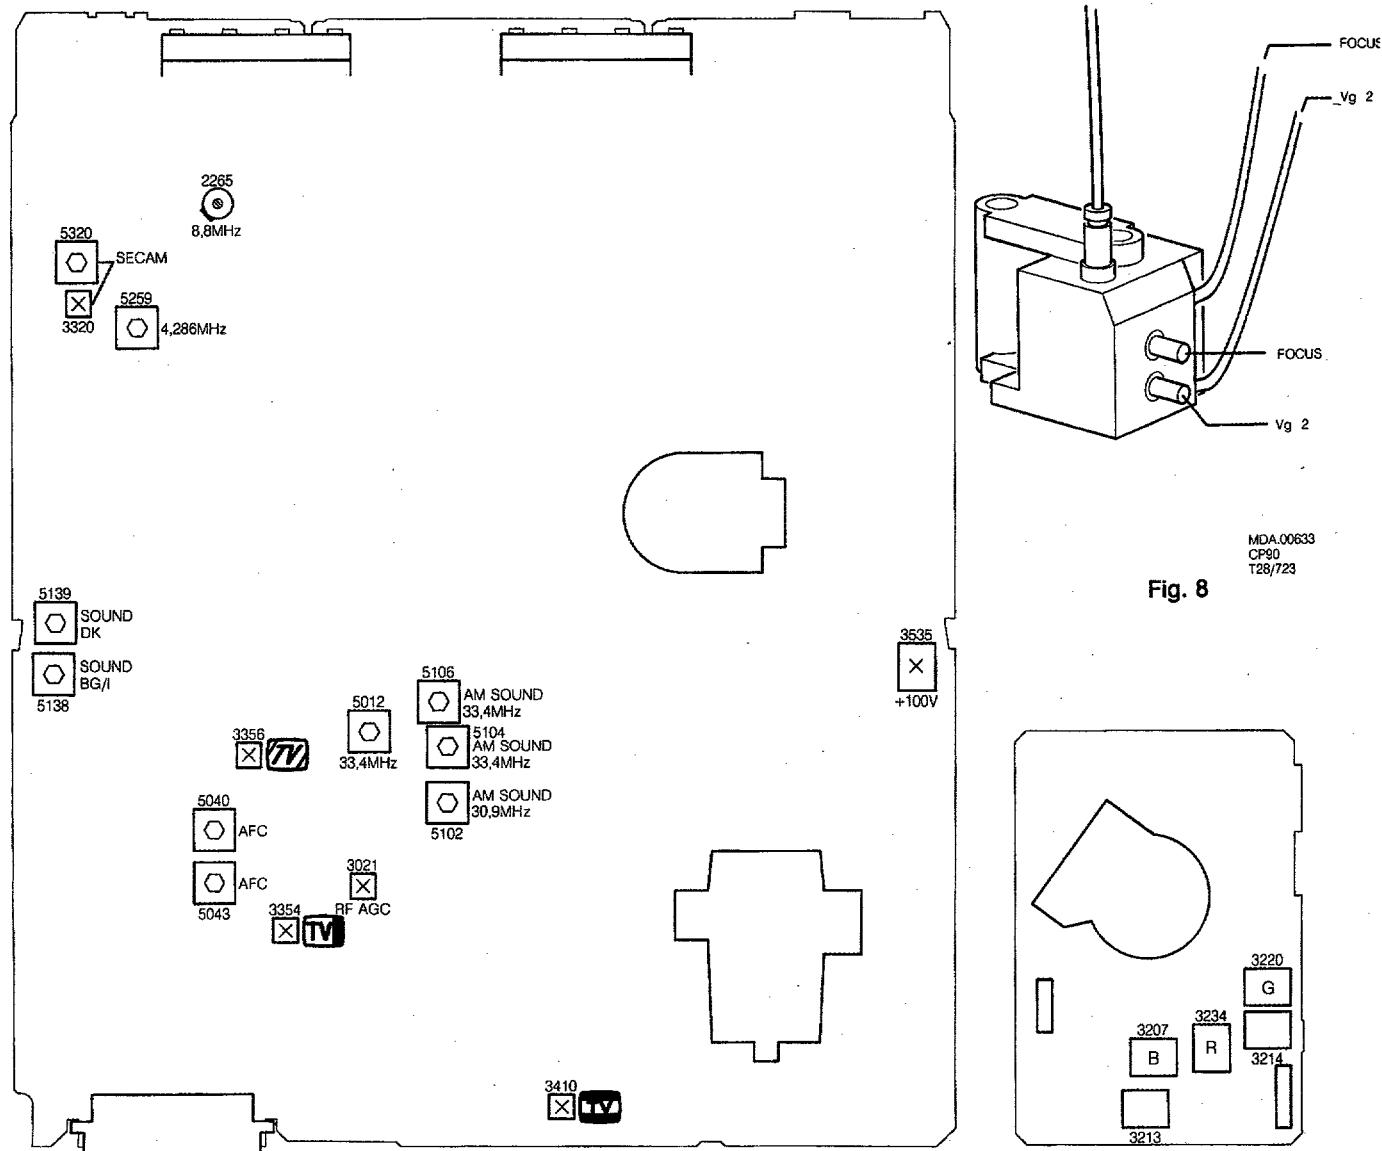

Fig. 7
1. Adjustments on the main panel (Fig. 7)